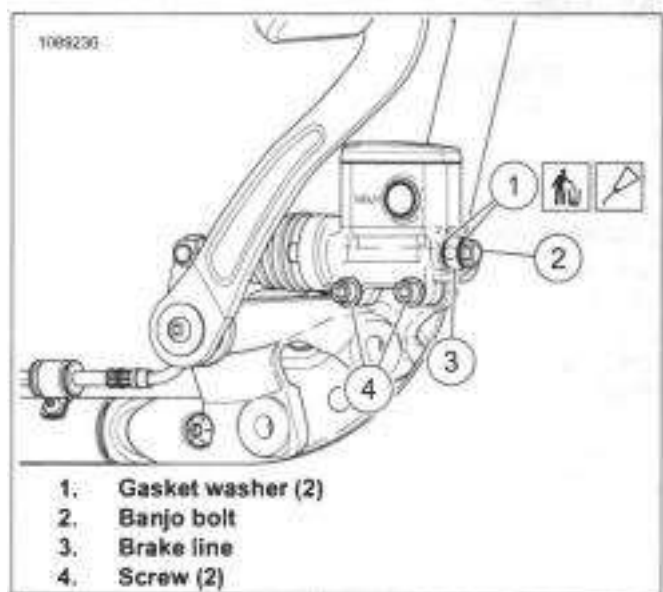

Figure 3-42. Rear Master Cylinder - Front View: (exhaust remove for clarity)
3. See Figure 3-42. Remove banjo bolt (2) and two gasket washers (1) to disconnect fitting of hydraulic brake line from master cylinder. Discard washers.
4. Remove screws (4).
6. See Figure 3-42. Install screws (4). Tighten.